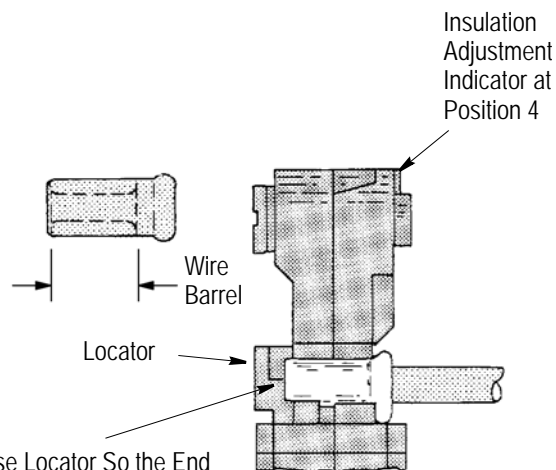

Figure 5
4. Raise locator so that end of cap rests against the recessed surface of the locator as shown in Figure 5.